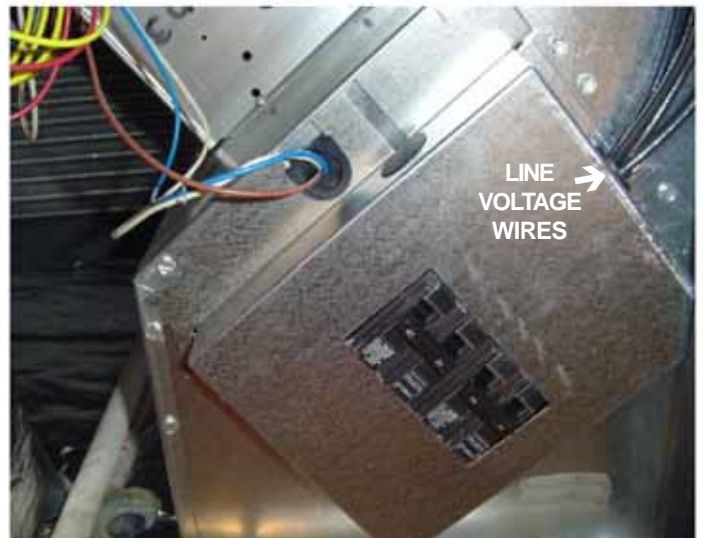

Figure 6
15. Install the cover with the 2 screws removed in step 4, routing the line voltage wires through the rubber grommet as shown in Figure 6.